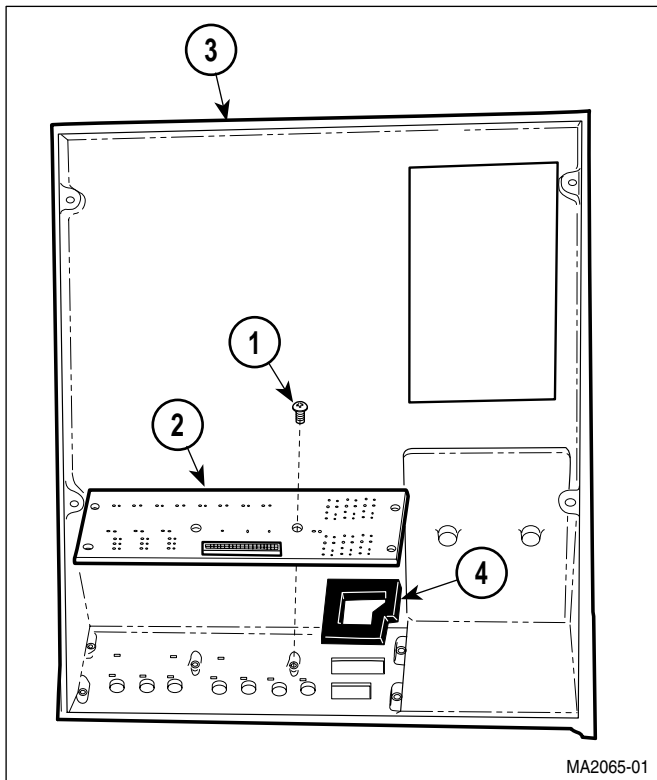

Figure 4-23. Display PC Board Removal / Installation
- (1) Remove top cover (Refer to para 4.2).
- (2) Remove six screws (1, Figure 4-23) and display PC board (2) from top cover (3).
- (3) If damaged, remove gasket (4) from top cover (3).